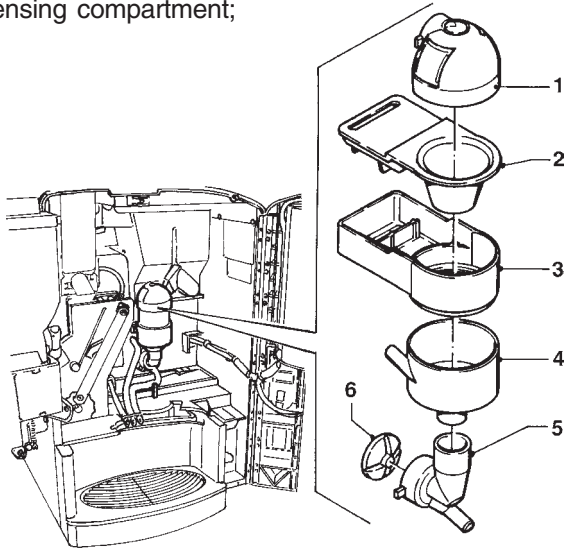

Fig. 3
- remove the powder and the water funnels, the feeders, the powder deposit drawers and the mixer wheels from the mixers (see Fig. 3);